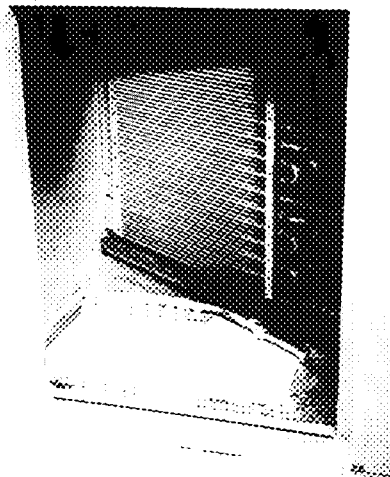

Fig. 15 — Vertical Duct Cover Removed
4. Using a straight edge and sharp knife, cut and remove the insulation around the perimeter of the cover. Remove and save 5 screws securing the cover to the basepan and slide out the cover. Discard the cover (Fig. 15).